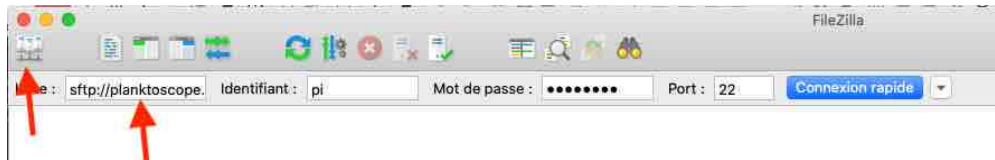

Figure 1: How to log to a ftp host.
2. Either click on the top left to create a new connexion or use the quick-connection fields below (it will not save the ftp site for later, fig.1)